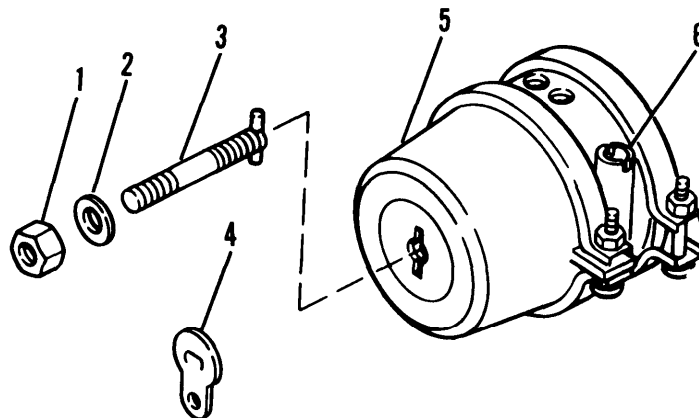

Figure 4-36. Uncaging Spring Brake Chambers
- b. Slowly loosen nut (1, fig. 4-36) and washer (2) on spring brake tool (3). Remove nut (1) and washer (2).
- c. Turn spring brake tool (3) 1/4 turn counterclockwise to unlock from manual release position. Remove spring brake tool (3).
- d. Install plug (4) on spring brake chamber (5).
- e. Insert spring brake tool (3) in mounting hole (6) in spring brake chamber (5). Secure spring brake tool (3) with washer (2) and nut (1).